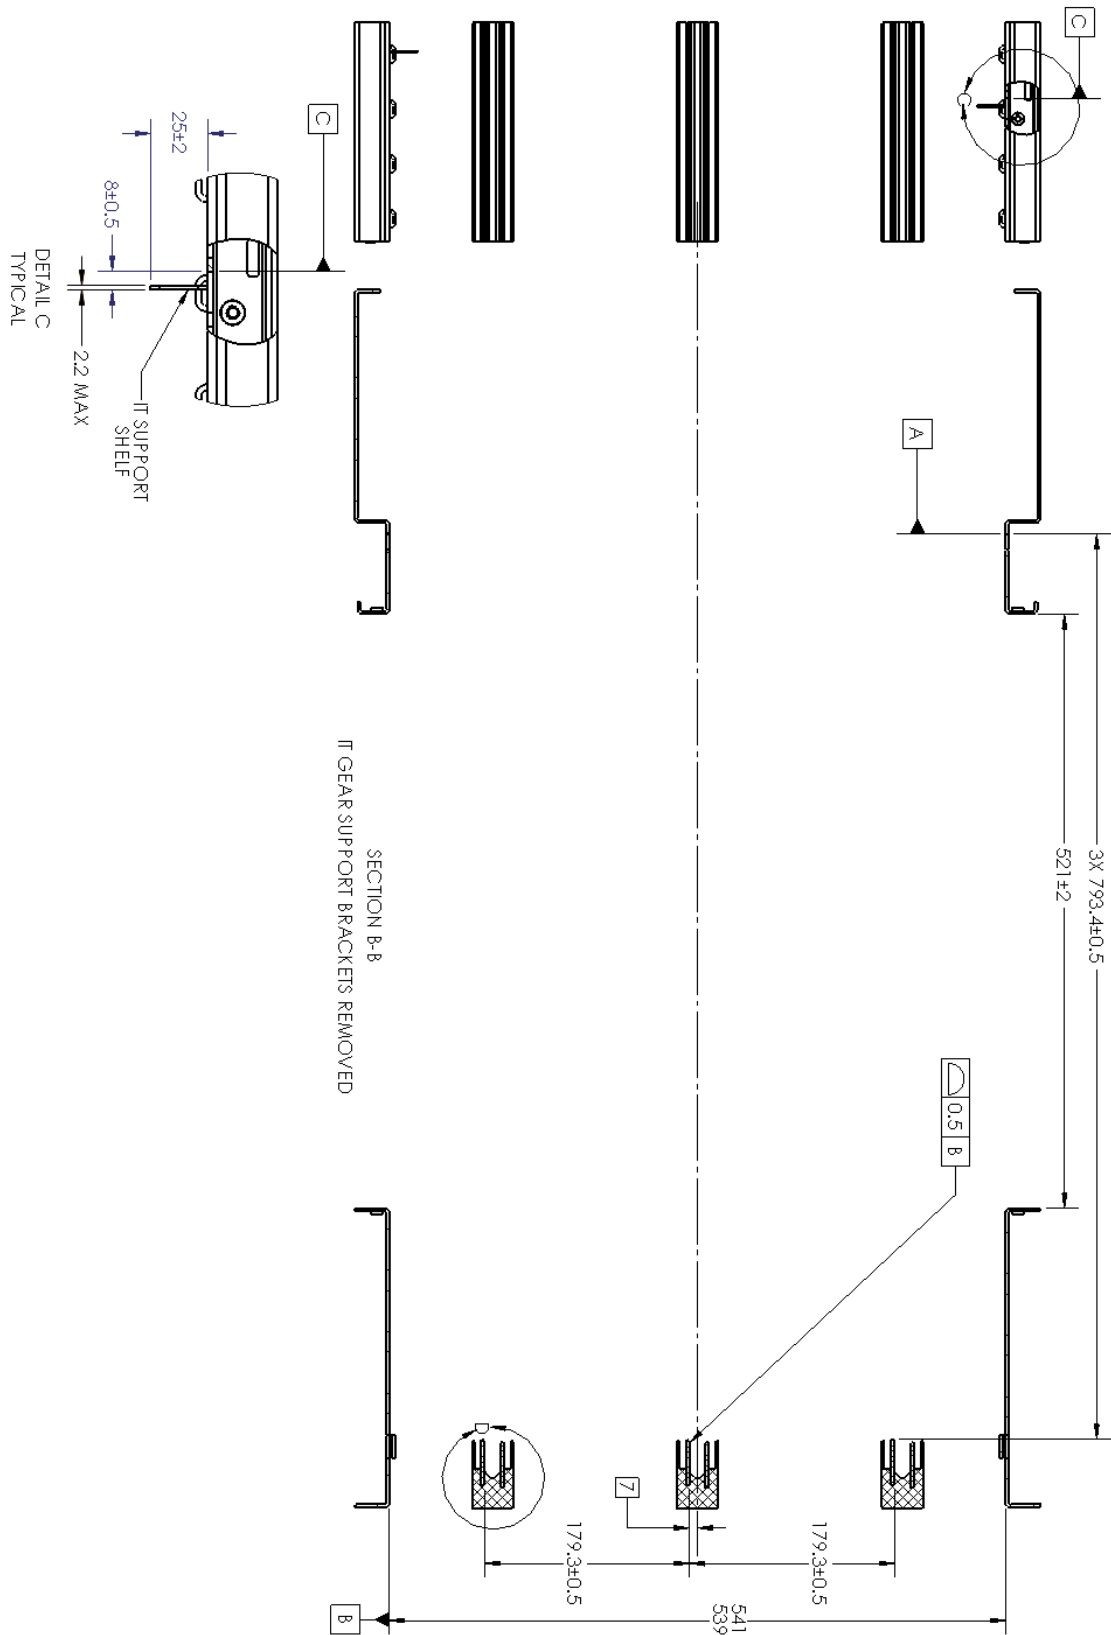

Figure 6: Open Rack Cross-Section
The rack SHALL also provide the following features (Figure 6):
- Conform to the shape shown in Detail B (Figure 6)
- Be located in the rack per Figure 6 and comply with Detail D in Figure 7